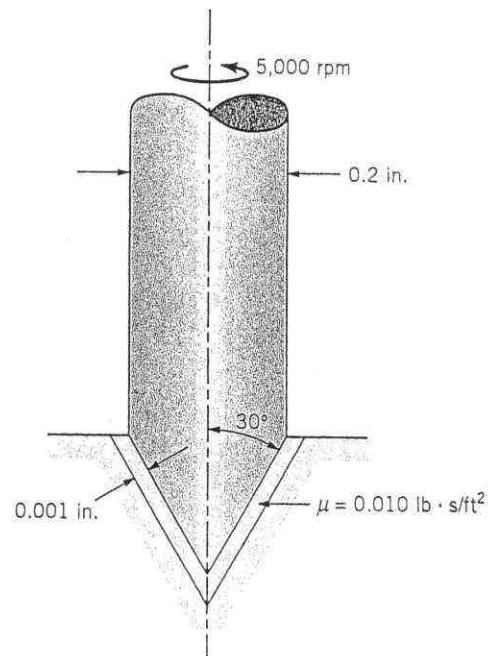

FIGURE P1.86
1.86 A pivot bearing used on the shaft of an electrical instrument is shown in Fig. P1.86. An oil with a viscosity of $\mu = 0.010 \text{ lb} \cdot \text{s}/\text{ft}^2$ fills the 0.001-in. gap between the rotating shaft and the stationary base. Determine the frictional torque on the shaft when it rotates at 5,000 rpm.